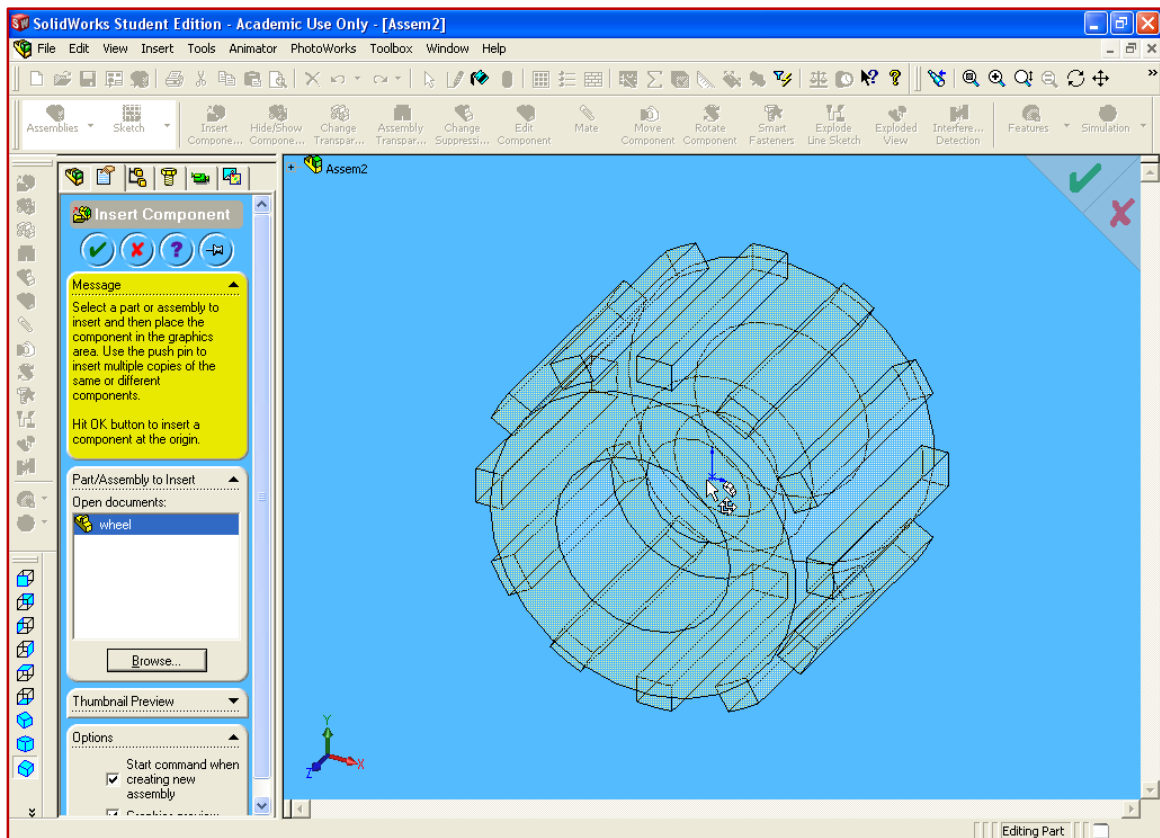

Figure 10.2 – Adding the Wheel to the Assembly
- ✓ To make the wheel coincident with the origin, click the check mark. If the origin is not visible, click **View→Origins** on the **Main Drop-down Menu**. See Figure 10.2.